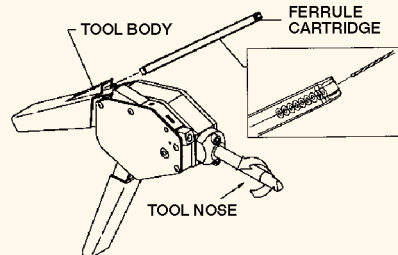

FIGURE 14: Safe-T-Cable® Tools
2.1.4. The nose can index to any position. To select the position grasp the nose, and rotate to the desired position (Figure 14).
2.1.5. Insert the free end of the cable through the ferrule in the cartridge, and remove the ferrule by pulling the cable away from the end of the cartridge (Ref. Figure 14).
3.1. The pre-set tension tool (Figures 14 and 15). Insert the free end of the cable into the cable entrance and continue to push the cable into the cavity. When the free end of the cable appears at the bottom of the tool, grip the cable and pull the slack from the cable until resistance is felt. Begin removing slack from the cable by repeatedly closing the tool handle allowing the handle to open fully before closing again. When all slack is removed from the cable, snug the tool against the fastener by using several short strokes of the handle. Release the handle to the full open position and fully close the handle to crimp securely and cut flush.